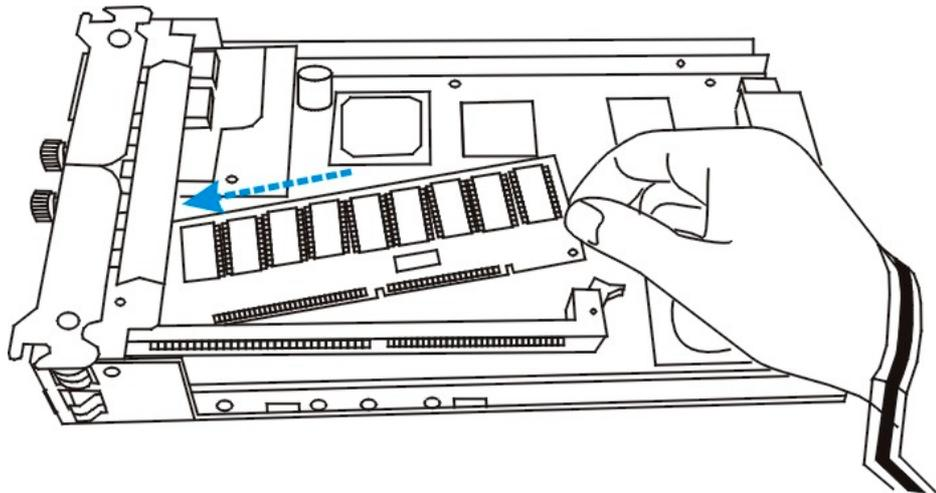

Figure 2-4: Correctly Orient the DIMM Module
Step 4. Insert the new DIMM module into the DIMM socket. To insert the DIMM module into the DIMM socket, elevate the rear of the DIMM module above the DIMM socket retention clip. Position the front of the DIMM module so that it can be easily inserted. (See *Figure 2-4*).